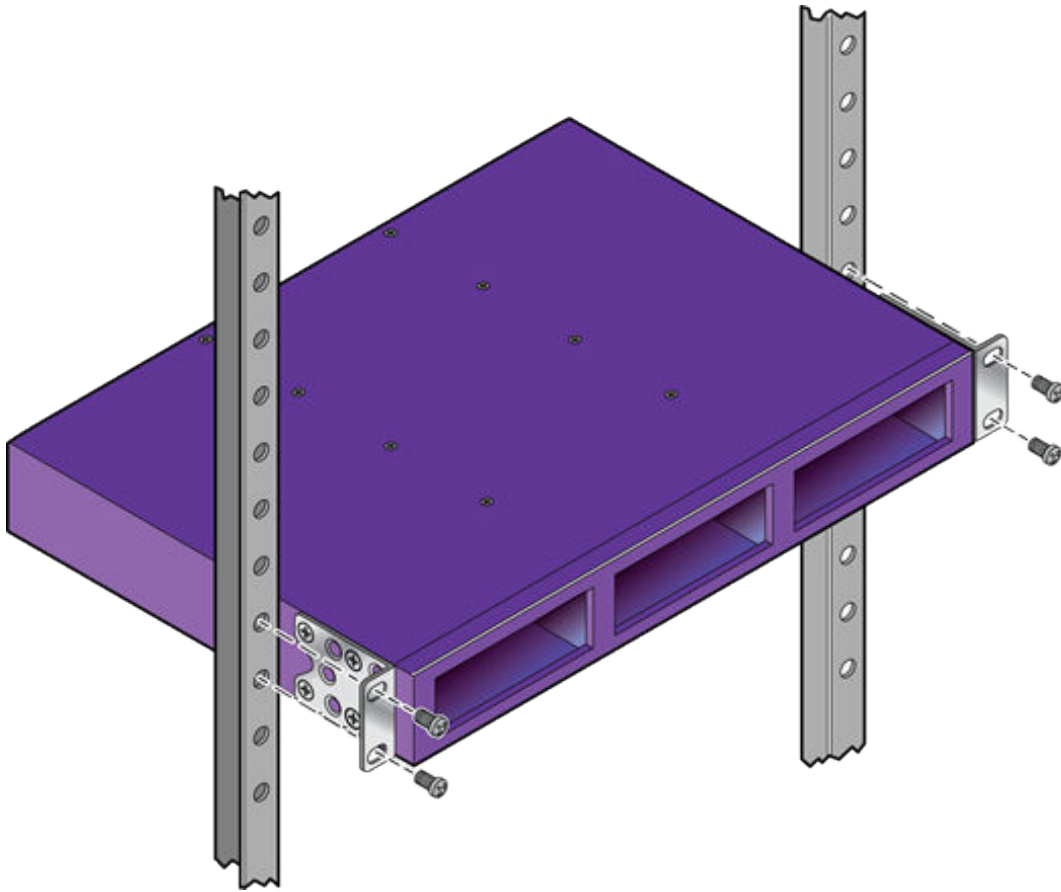

Figure 198: VX-RPS-1000 Shelf Mounted in a Rack
- 2 Attach the shelf to the rack, using the screws provided, as shown in Figure 198.